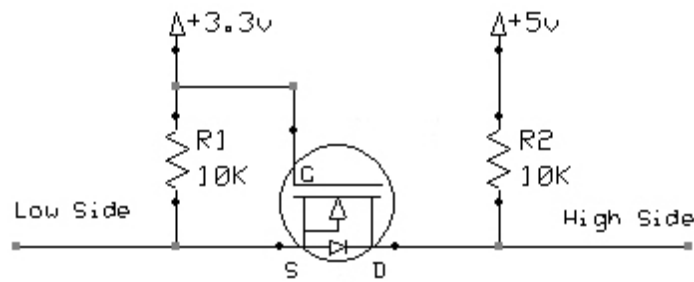

Figure 5: Level Converter ¹
Precautions have to be taken when connecting 5V devices to the raspberry pi since the Pi is **not 5V tolerant**. The user has to make sure that voltage going to the Raspberry Pi do not exceed 5V. There are many ways to handle the matter. Easiest way is probably using voltage dividers with 2 resistors. Care has to be taken to the direction of the voltage since those are not bidirectional. More robust way which gives you biderctional capacity is by using an Integrated circuit (IC) or using the circuitry like I did in figure 5 based on one N-Channel Mosfet.